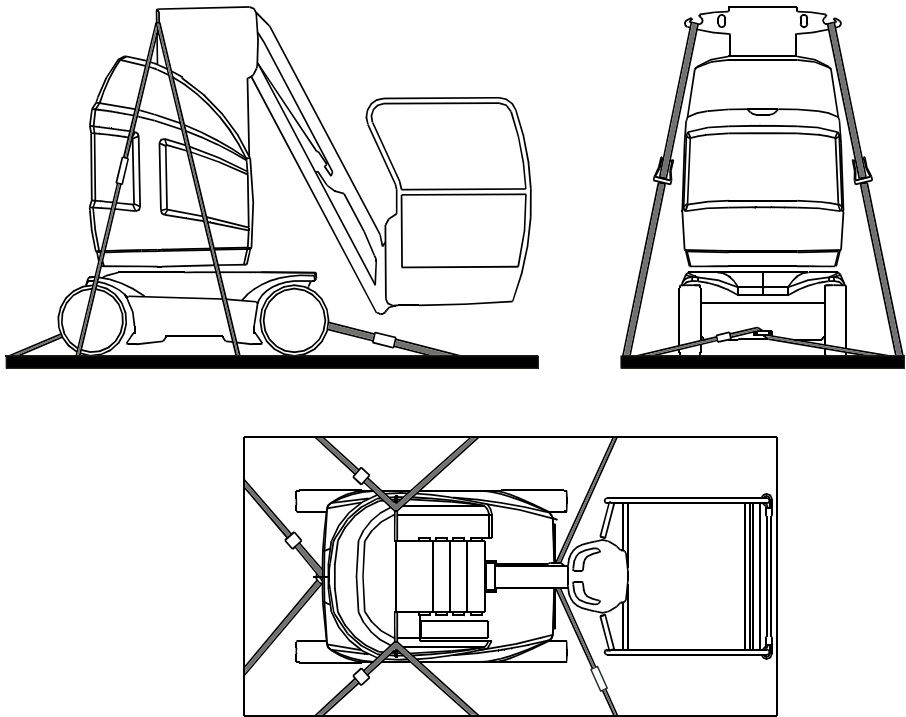

Figure 3-19. Machine Tie-Down - 10E
- Machine must be tied down to the truck bed or trailer deck as shown in Figure 3-18. (8E) or Figure 3-19. (10E)